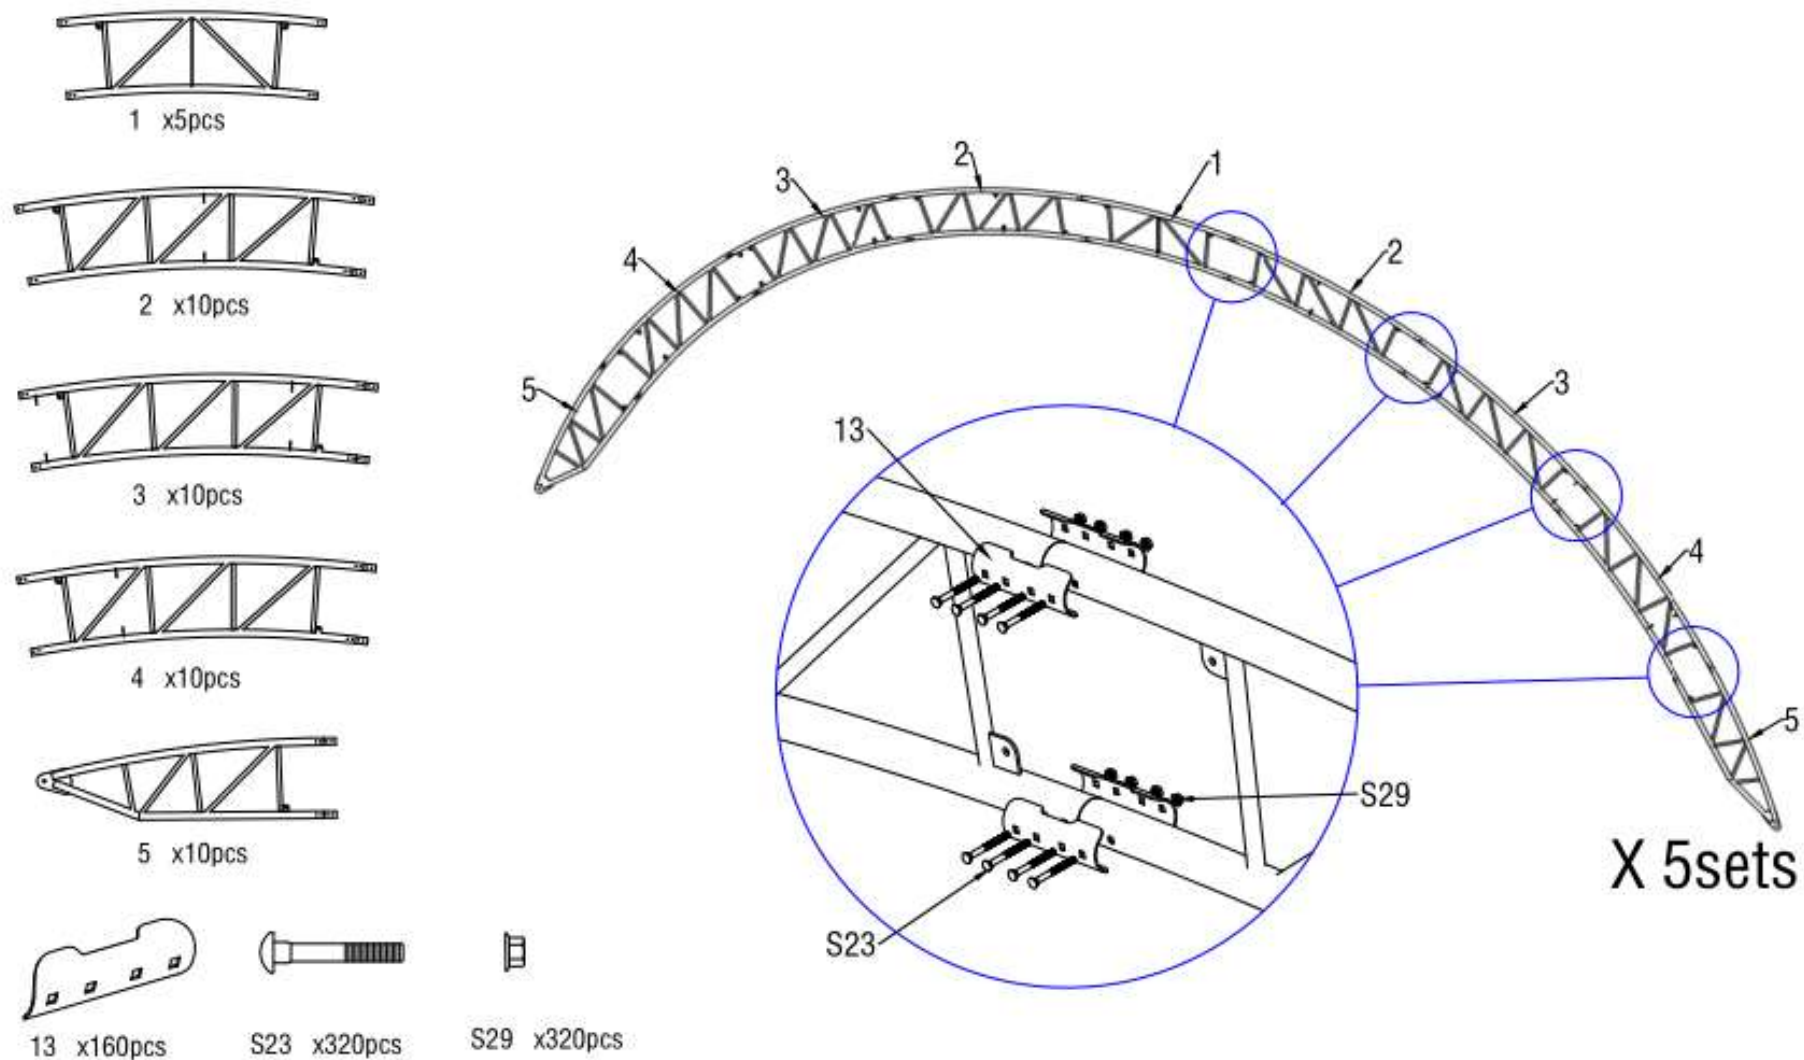

Figure 2
2.1 As Figure 2&3 shown to find one Roof Bent Tube, Middle Bent Tubes, Side Middle Bent Tube, Side Lower Bent Tube and Lower curving tube assemble these arches with Carriage bolt M8x80mm(Part no.S23&S29) and Clamping Piece(Part no.13) to make the first arch group.